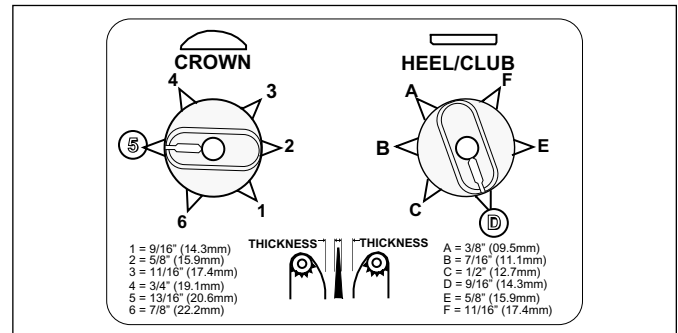

Figure 2A. Bun Thickness Adjustment Controls for 17 second toasters
- Set the Bun Thickness Adjustment Controls (Figure 2A and 2B) as follows: